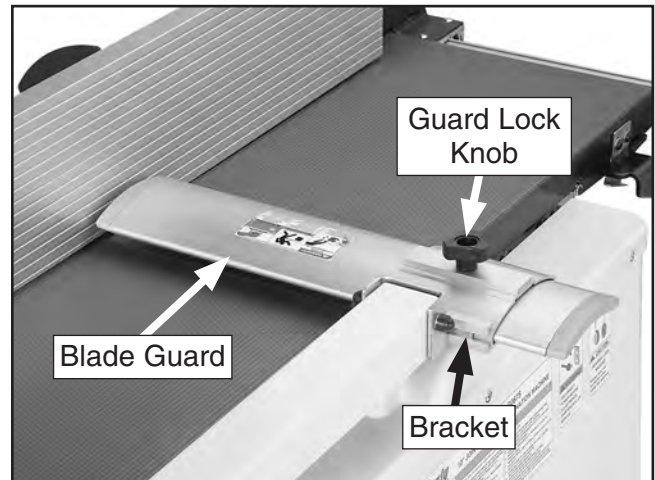

Figure 12. Blade guard installed.
3. Loosen the guard lock knob, slide the blade guard into the bracket, then tighten the lock knob (see **Figure 12**).